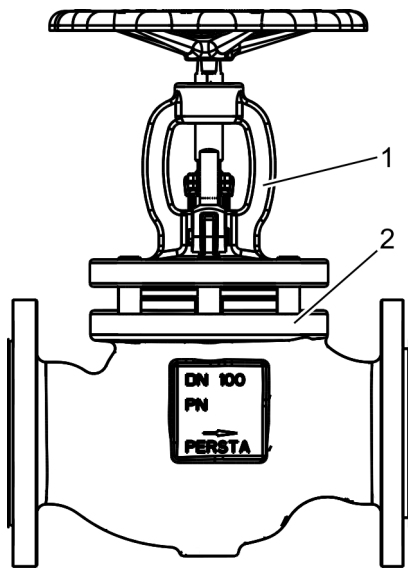

Fig. 20: Fitting the bonnet
33. ➤ Fit the bonnet (Fig. 20/1) onto the stud bolts on the body (Fig. 20/2).